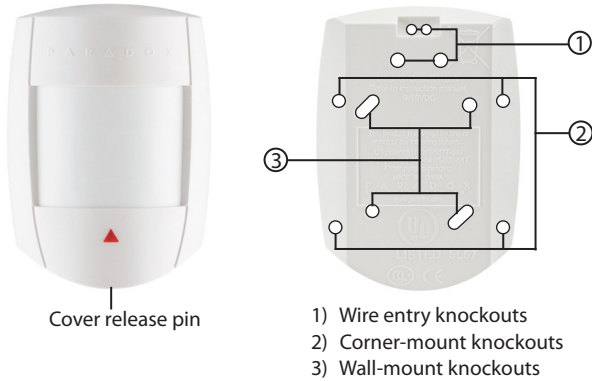

Figure 1
- 1) Remove the cover (Figure 1).
- 3) Drill or punch out the selected knockout holes (Figure 1) and secure the detector back using appropriate mounting screws.